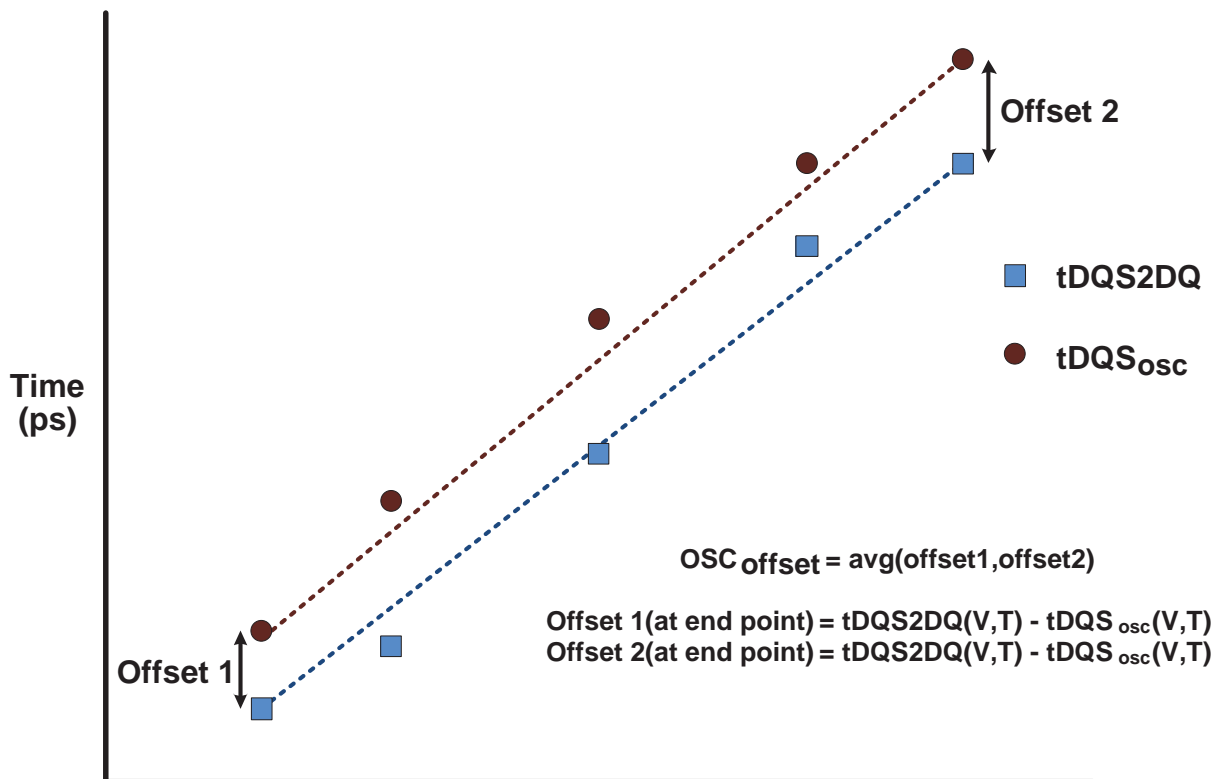

Figure 4.103 — Interval oscillator offset OSC_{Offset}
- OSC_{Offset} : Average delay difference over voltage and temp(shown in Figure 4.103)